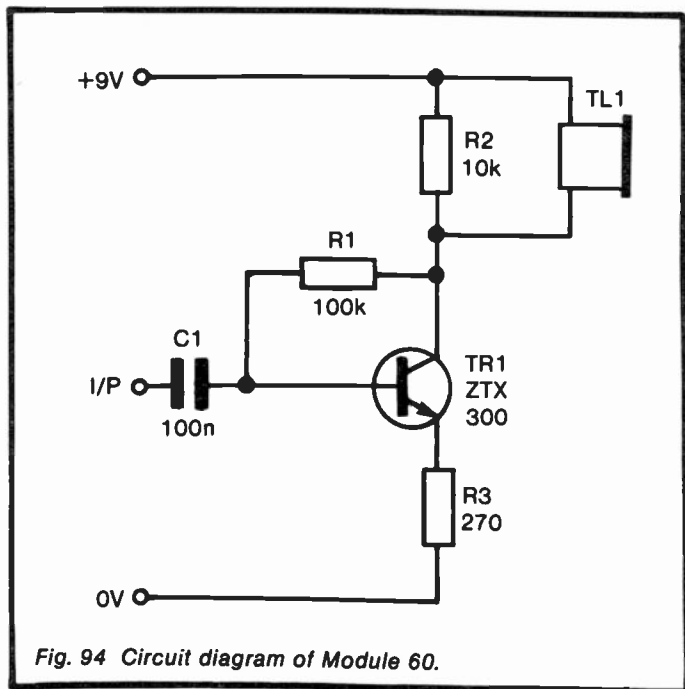

Fig. 94 Circuit diagram of Module 60.
*Circuit diagram:* see Figure 94.